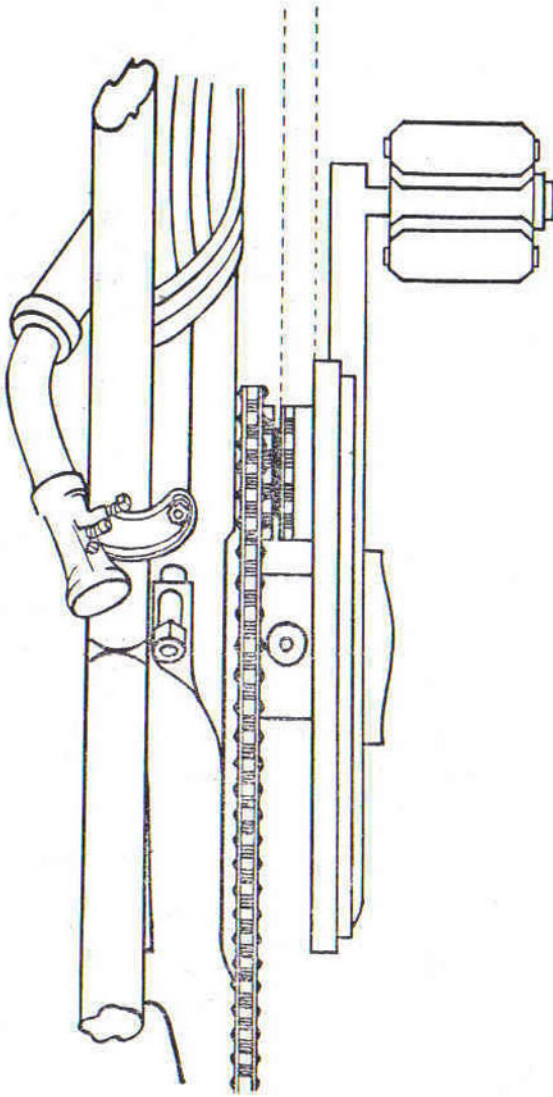
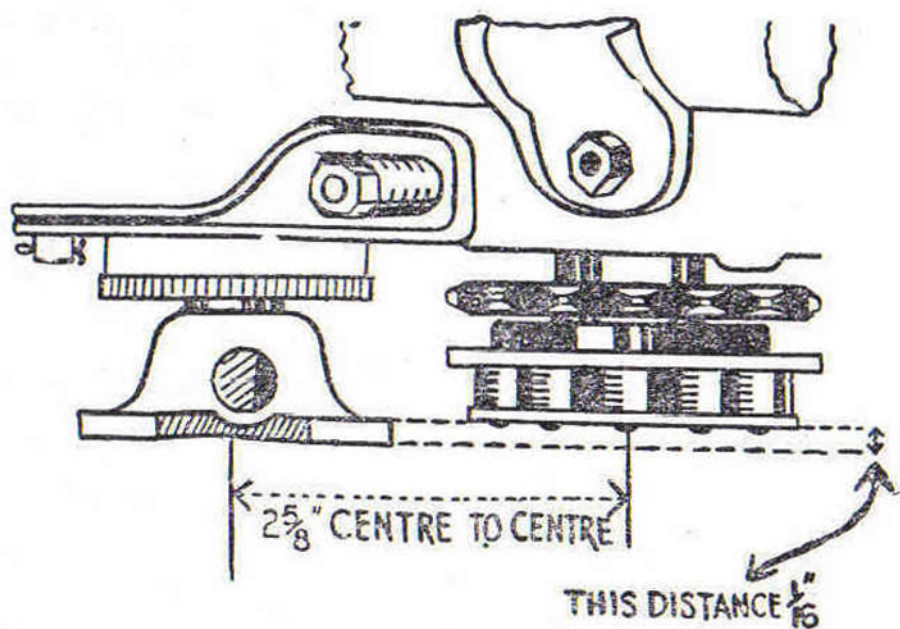
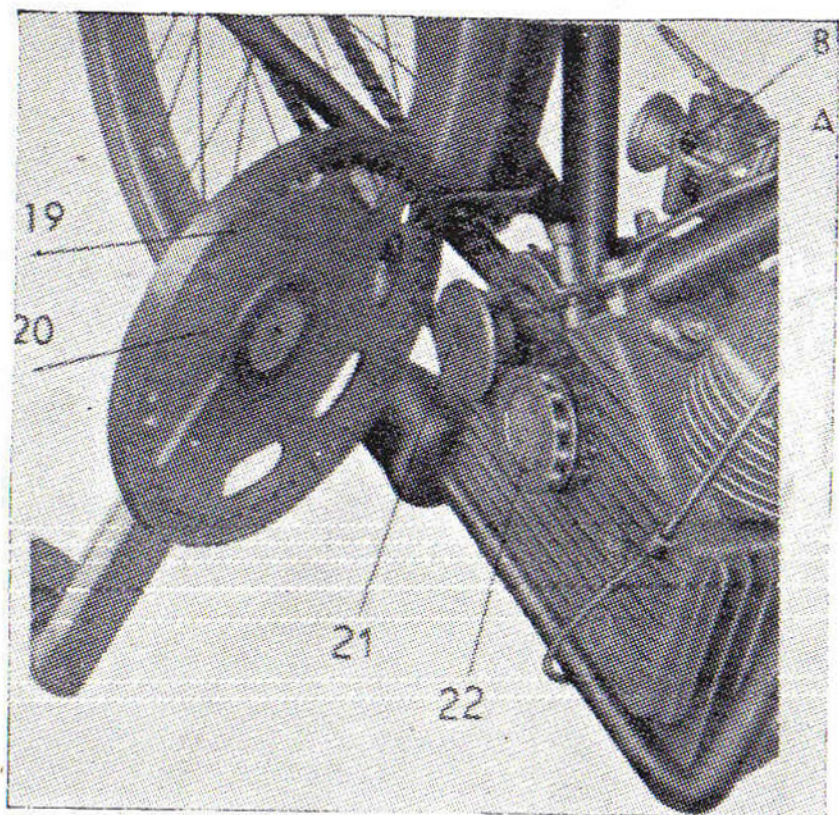

Fig. 4
Fig. 8
Fig. 9
With a total weight of approximately 200 lbs. between the rider and the bicycle, petrol consumption is about 275 miles per gallon at an average speed of 17-18 m.p.h. on level roads. With steady riding on good surfaced level roads over 300 miles per gallon has been obtained on continuous rides of 60-80 miles, at an average speed of 14-16 m.p.h. The carburettor has two adjustment screws, A & B (see Figure 9). The screw A will adjust the ratio of petrol to air for idling mixture, and has been adjusted at the factory for normal running. It is not advisable to alter this adjustment unless definite variations in carburation are encountered, such as might be experienced with different qualities or densities of fuel, tropical or extreme winter climate, a new engine or one in badly worn condition. The B screw is simply a stop to prevent the full closing of the butterfly valve; with this screw the speed of idling can be adjusted.
causing stiffness in pedalling, or will not engage enough, resulting in undue strain and eventual damage to the slip sprocket rollers. It is equally important that the crank support (21) be 1/16" past the line of the slip sprocket, as shown in Fig. 8. By sighting from the top correct alignment can be checked (see Fig. 4.)
Twisted frames or lugs sometimes require uneven packing of the engine so that this will line-up with the chain (see Fig. 4 & 5). As an example, the thicker packing on the right will move the front of the engine to the left, and vice versa. It is seldom necessary to pack unevenly. If additional packing is necessary red fibre or metal, such as brass or copper, should be used.
5. Fitting of crankwheel support (21) and crankwheel (22).
The crankwheel support (21) may now be assembled onto the right end of the "Cucciolo" spindle, making sure to fit the cotter-pin carefully and tightly. The support (21) must be 1/16" past the line of the slip sprocket (22), as shown in Fig. 8.; in order that the toothed insert (19) Fig. 9, runs freely and true in the centre of the rollers of the slip sprocket.
Must be made while engine is warm. Turning screw "A" (fig. 9) clockwise will weaken mixture. If idling-speed of engine (in neutral gear) is too fast or too slow, adjust screw "B", which will control opening of main butterfly valve.